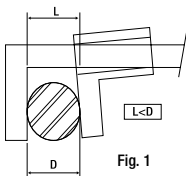

Fig. 1
- Do not apply excessive pressure when measuring (fig. 1)